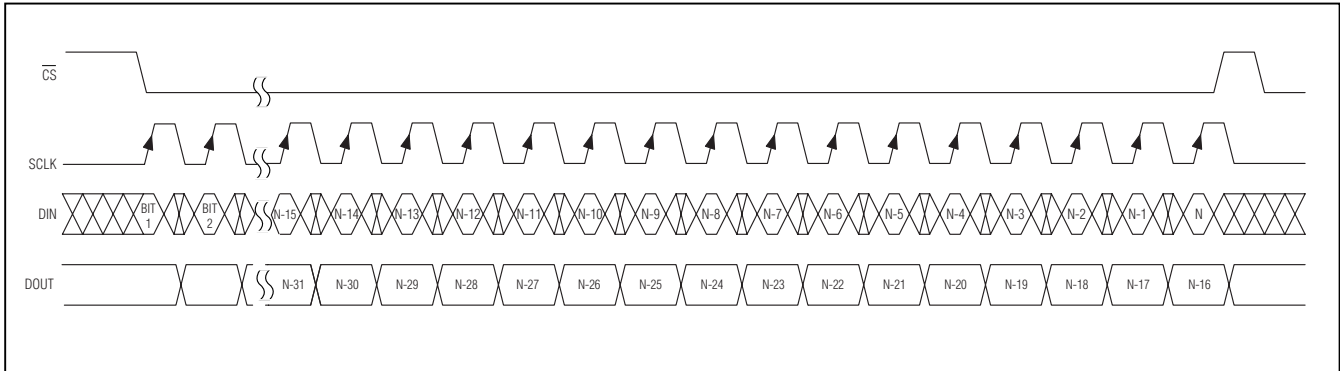

Figure 6. Transmission of More than 16 Bits to the MAX7317
- If fewer or greater than 16 bits are clocked into the MAX7317 between taking \overline{CS} low and taking \overline{CS} high again, the MAX7317 stores the last 16 bits received, including the previous transmission(s). The general case is when n bits (where $n > 16$) are transmitted to the MAX7317. The last bits comprising bits $\{n-15\}$ to $\{n\}$, are retained, and are parallel loaded into the 16-bit latch as bits D15 to D0, respectively (Figure 6).